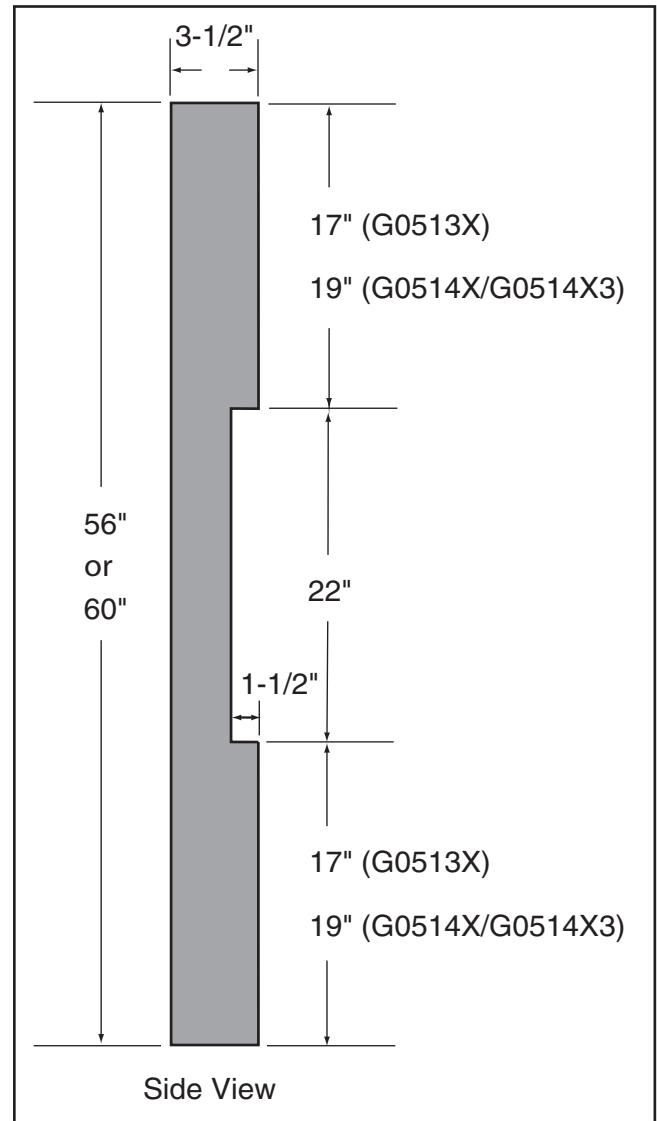

Figure 62. Dimensions of coplanarity gauge.
1. Make the "Coplanarity Gauge" shown in **Figure 62**. **Note:** For best results, straighten the 2x4 with a jointer before cutting.